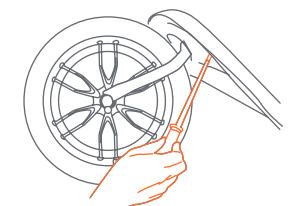

Fig. 23b
• Insert the 4 screws through the underside of the front frame assembly into the front fender's plastic tubes. Tighten the screws only until snug (Fig. 23b).